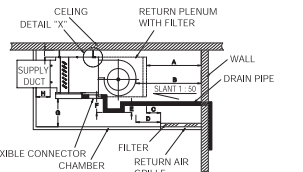
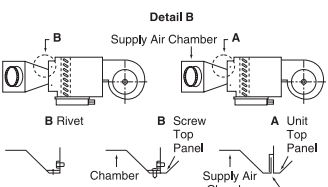

Figure 3 (SIDE VIEW)
Figure 6
4. Hang the unit on a solid and level roof. Noise, vibration or leakage could occur on and unstable foundation (Figure 3, 4). For correct installation of duct work see (Figure 6).